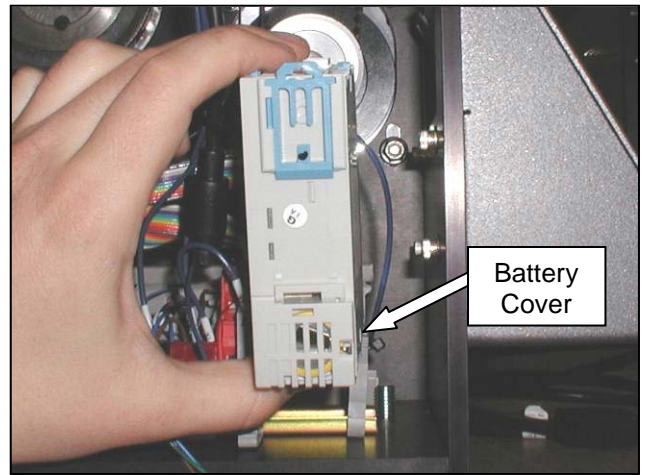

Figure 3-79. PLC Battery Location
6. Remove the battery cover by lifting the edge of the cover and remove the cover (Figure 3-79).